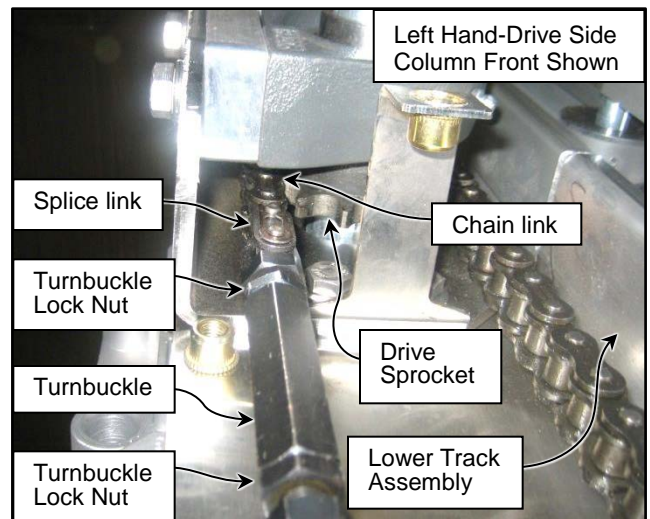
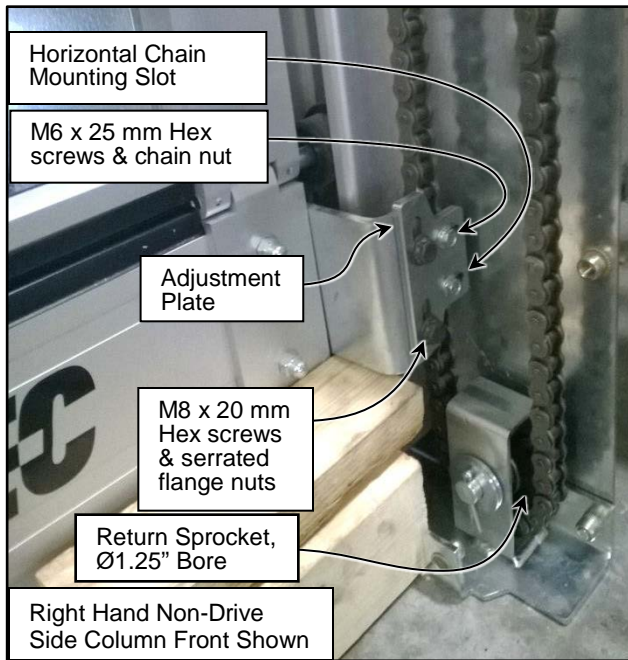

Figure 49
Figure 50
- Loosen and extend the chain turnbuckle. Install the chain between the two sprockets. Guide the chain around the sprockets as shown with the loose ends at the upper sprocket on the front side of the door as shown. The turnbuckle should be 1-2 links away from the drive gear. (See Figure 49 and See Figure 50)
3. Remove the adjustment plate from the bottom bar end bracket on the drive side and remove the chain nut and screws. (See Figure 50)
- Lock the turnbuckle in place with its jam nuts. (See Figure 49)
- Reattach the adjustment plate to the end brackets and fully tighten the M8 x 20 mm Hex screws. Also fully tighten the M6 x 25 mm Hex Flanged Screws and chain nut securing the end bracket to the drive chain. (See Figure 50)